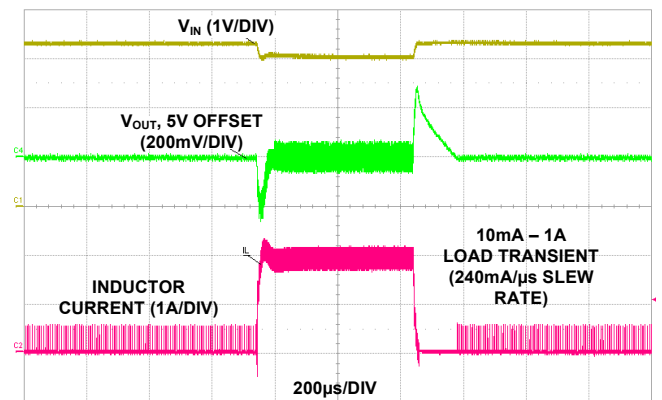

FIGURE 3. ISL91117 LOAD TRANSIENT AT  $V_{IN} = 3V$  AND  $V_{OUT} = 5V$
12. Set the electronic load to constant current dynamic mode with 10mA to 1A pulse,  $t_{ON}=500\mu s$ . Check the load transient response as shown in Figure 3.